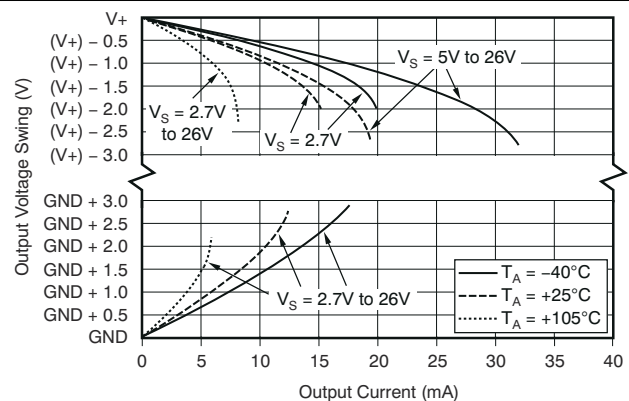

Figure 6-6. Output Voltage Swing vs Output Current
(1) RTI = Referred-to-input.
(2) See Typical Characteristic curve, *Output Voltage Swing vs Output Current* (Figure 6-6).